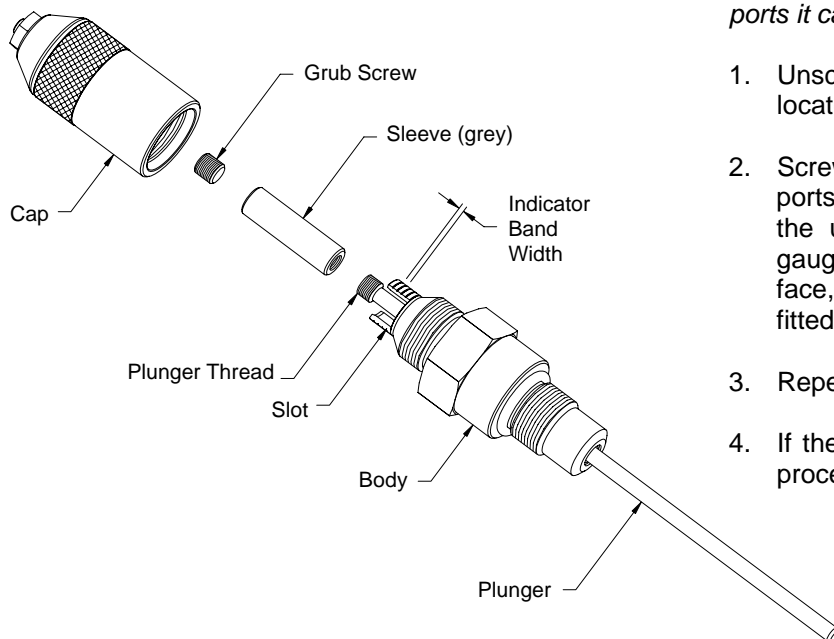

Figure 1
*Each band corresponds to 20% brake wear. Refer Figure 1 and Figure 5.